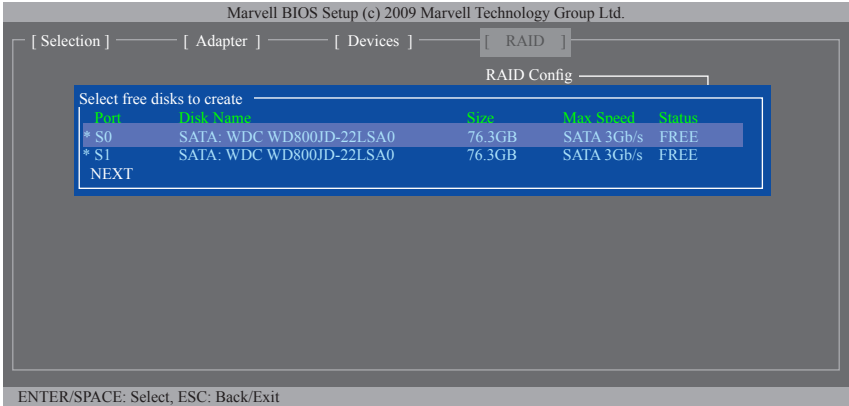

Figure 5
Step 2: The next screen displays the two hard drives you installed. Press <Enter> or <Space> on the two hard drives respectively to add them into the RAID array. Selected hard drives are marked with an asterisk (Figure 5). Then press <Enter> on **NEXT**.